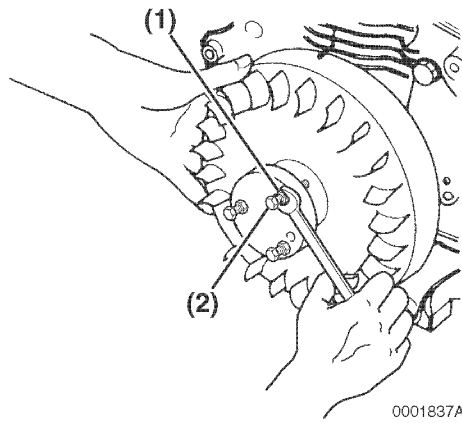

Figure 9-14
6. Assemble the flywheel puller by threading one nut on each screw (**Figure 9-14, (2)**) all the way to the screw head.
11. Tighten each upper nut (**Figure 9-14, (1)**) evenly in a cross pattern to apply tension to flywheel, keeping puller plate parallel to flywheel. Alternately continue to tighten upper nuts until flywheel comes loose from crankshaft. If necessary, lightly tap on the center of the puller plate to assist in “popping” the flywheel loose from the crankshaft.